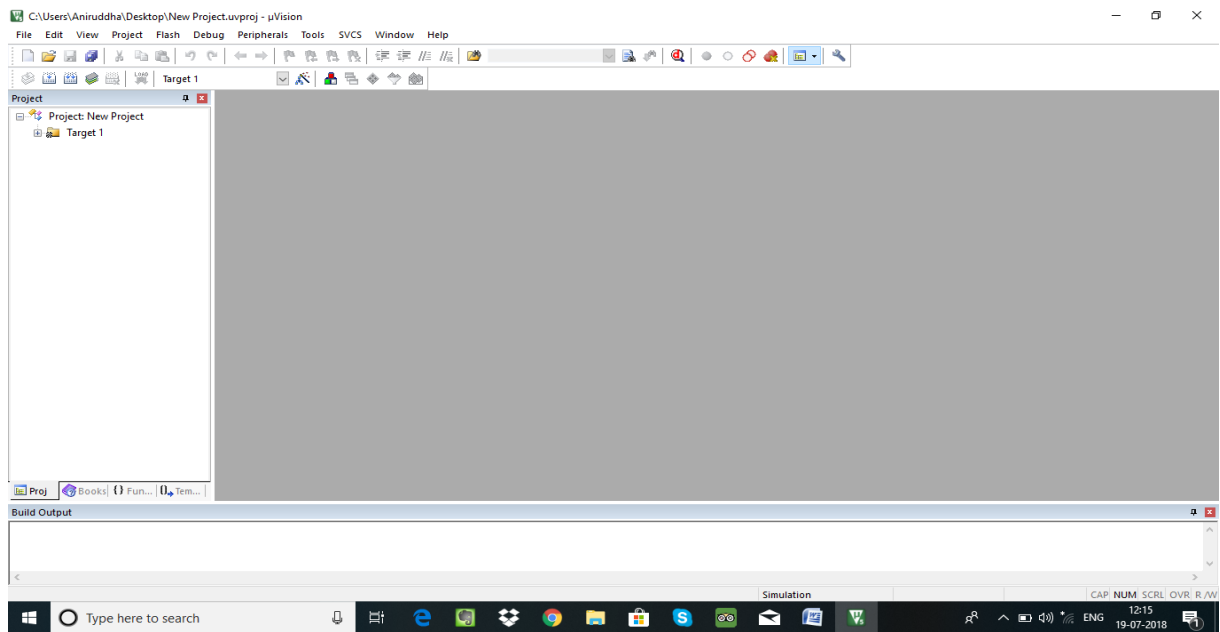

Figure. 7
6. New project is created Fig. 7